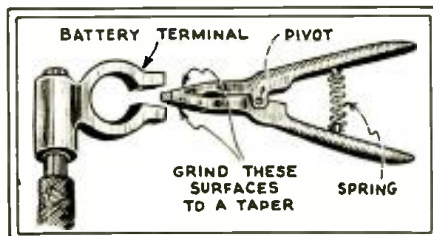

Fig. 2
**R**ADIO men too often resort to the use of a hammer to remove cable lugs which have become corroded to storage battery terminals. However, the special pliers illustrated in Fig. 2 perfectly solve the problem. On an emery wheel, grind to a tapering point the outside faces of a pair of "chain" pliers; this tool may be obtained from an electrical supply house.